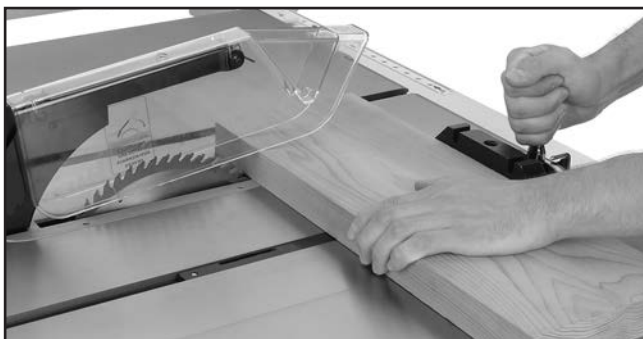

Figure 53. Typical crosscutting operation.
7. Hold workpiece firmly against face of miter gauge (as shown in **Figure 53**), and ease it through blade until workpiece is completely past saw blade.